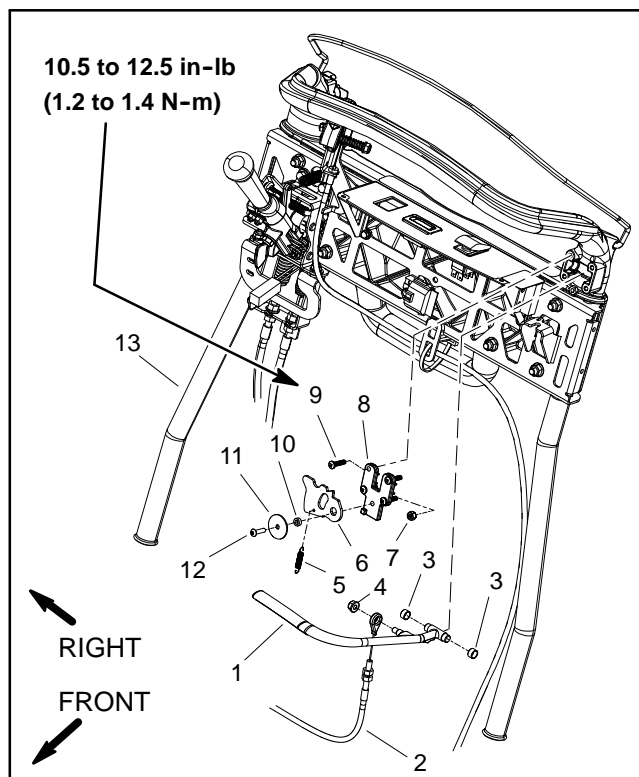

Figure 7
4. Remove flange nut that secures brake cable eyelet to brake lever on machine handle (Fig. 7).
1. Secure brake cable eyelet to the brake lever on the machine handle with flange nut (Fig. 7).